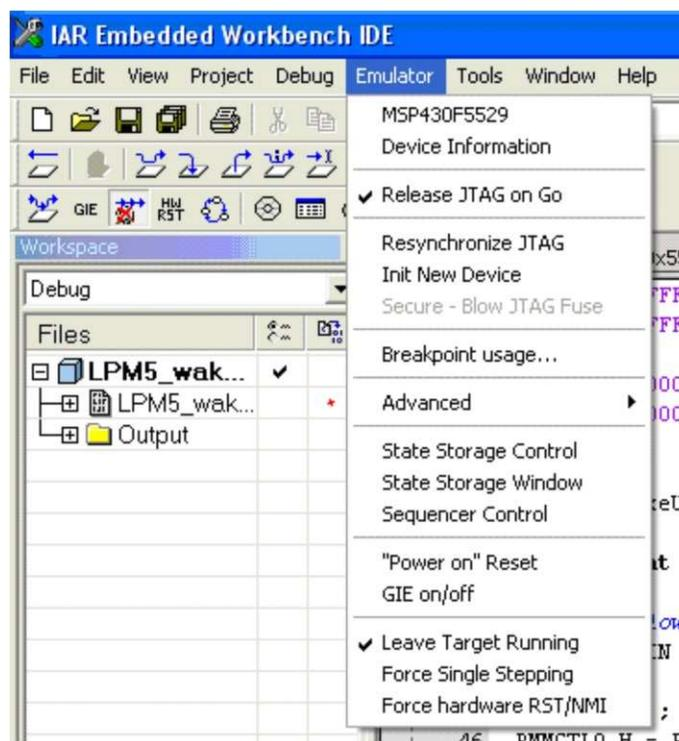

Figure 2. Enable 'Release JTAG on Go' in IAR
- If using IAR, this option is found in the Emulator menu (see Figure 2).